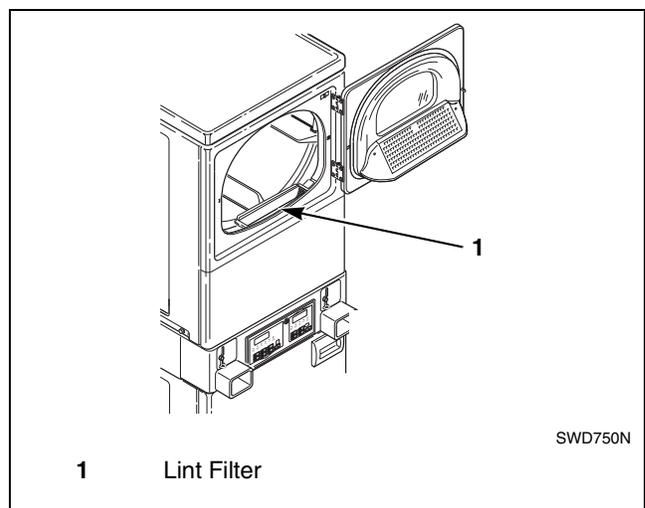

Figure 65
**CLEAN THE LINT FILTER BEFORE DRYING EACH LOAD.** (Refer to *Figure 65* for lint filter location.) Cleaning the lint filter is important because a layer or pad of lint on the filter will block the flow of air through the dryer, thus reducing the efficiency of the dryer. The clothes will take longer to dry and energy will be wasted.